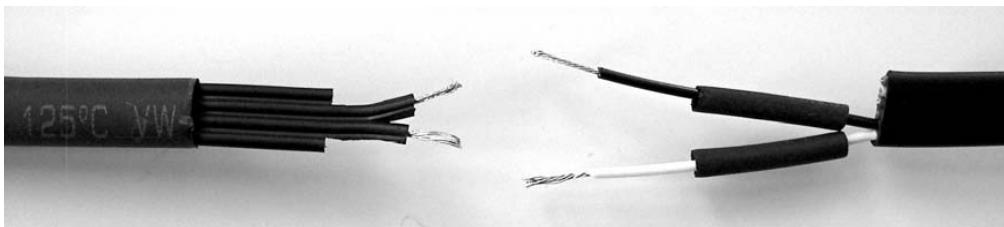

Figure 11-33. Slip heat shrink tubing on wires before soldering
2. The inner two wires of the cable are C1 and C2. You can cut the outer two wires back because you will not be using them. Prepare an NXT cable with only the black and white wires, leaving enough room for short pieces of heat shrink to be slid on them (see Figure 11-33). An additional larger piece of heat shrink should be slid on the Power Functions cable that will serve to cover the entire splice.